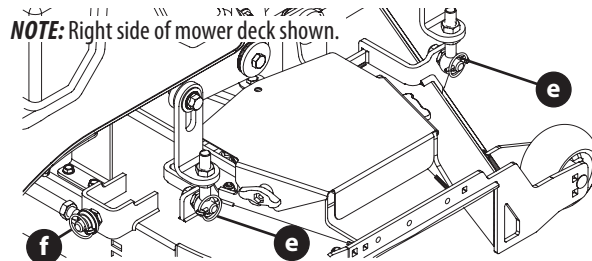

Fig. 36
- Remove the four lynch pins (e) that secure the deck to the deck lift assembly (Fig. 36).
- Remove the lynch pin (f) securing the rear stabilizer bar to the rear, right side of the deck (Fig. 36).